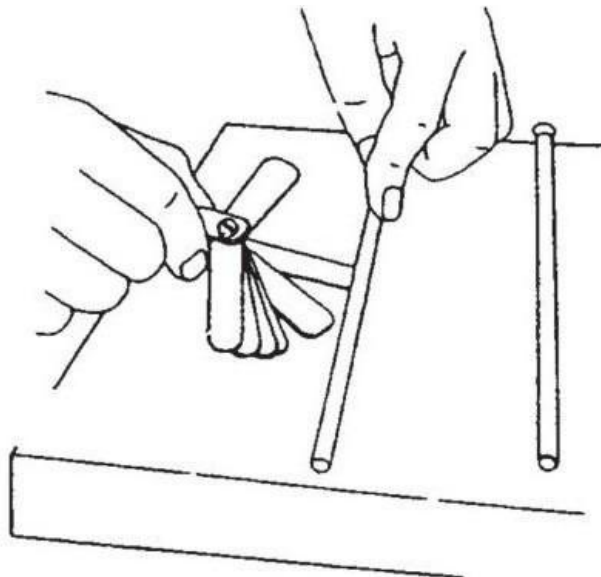

Figure 57. Push Rod Measurement
3. Use a feeler gauge to measure the gap (Figure 57).